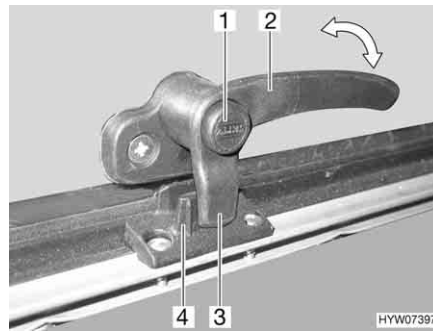
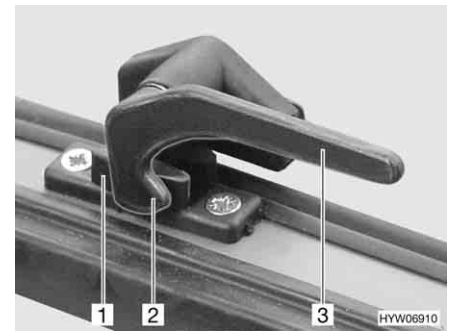

Fig. 78 Catch lever with safety knob in "closed" position
Fig. 79 Catch lever in "closed" position
- Press and hold the security button (Fig. 78,1), if present.
- Turn the catch lever (Fig. 78,2 or Fig. 79,3) a quarter turn towards the centre of the window.
- Turn the catch lever (Fig. 78,2 or Fig. 79,3) a quarter turn towards the window frame. The locking catch (Fig. 78,3 or Fig. 79,2) on the catch lever is entirely on the inner side of the window catch (Fig. 78,4 or Fig. 79,1).
- Firmly closed (Fig. 78 and Fig. 79)